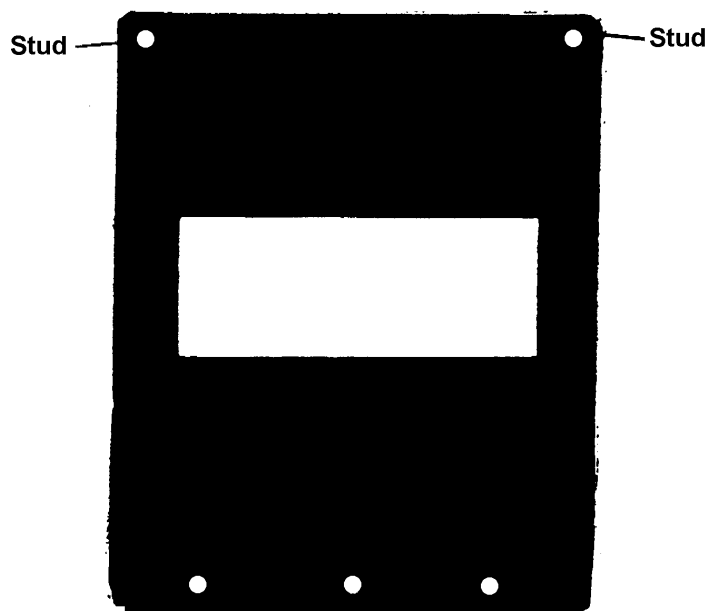

Figure 1
1. Remove the Validator cover plate from the vender's Main Door, and keep the four (4) Keps Nuts.
- 2a. Install the Validator Mounting Plate (bottom down- Fig. 1) in the opening from which the Validator Cover Plate was removed.
- b. Once inserted, install two (2) Keps Nuts (1 on each side as spacers) on the bottom studs, and four (4) keps nuts (2 on each side as spacers) on the top studs.